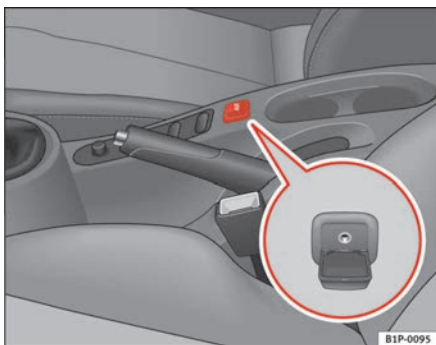

Fig. 102 Auxiliary audio connection
- Lift the AUX. cover ⇒ fig. 102.